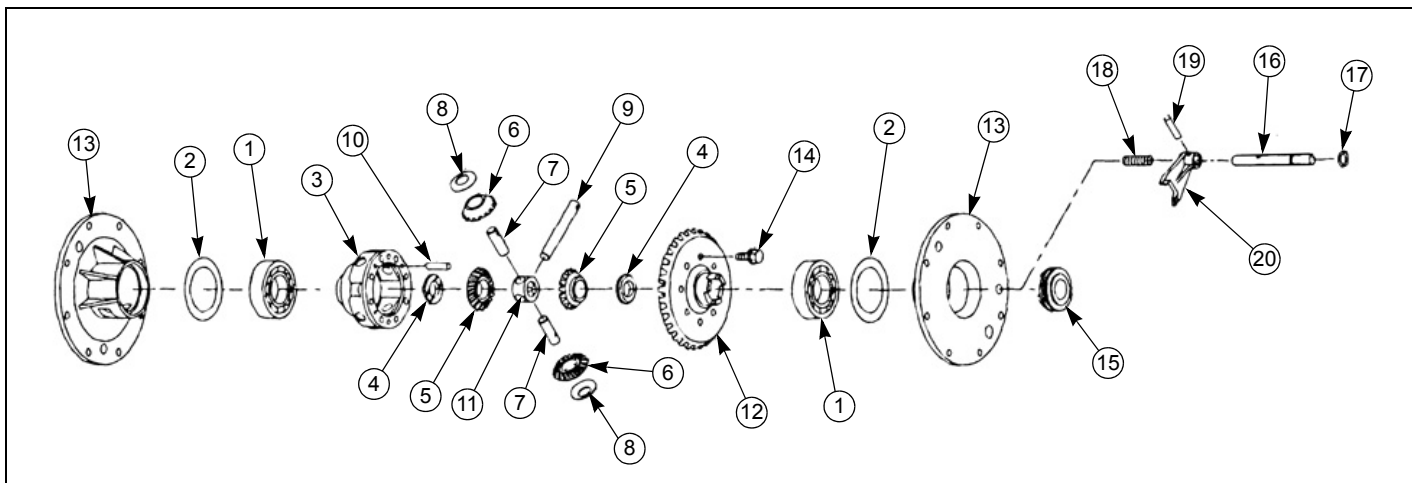

Figure 2-74
Reference – Figure 2-74
1. Assemble the differential pinion shaft, pinion gears, thrust washers dowel pins and side gears as shown. Figure 2-74